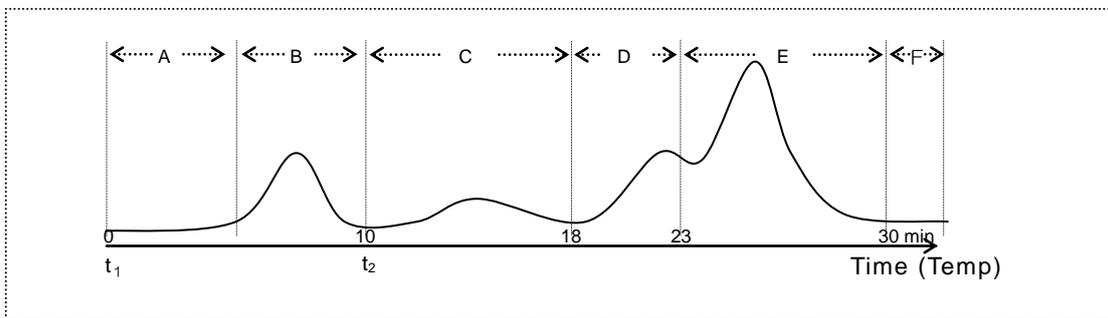
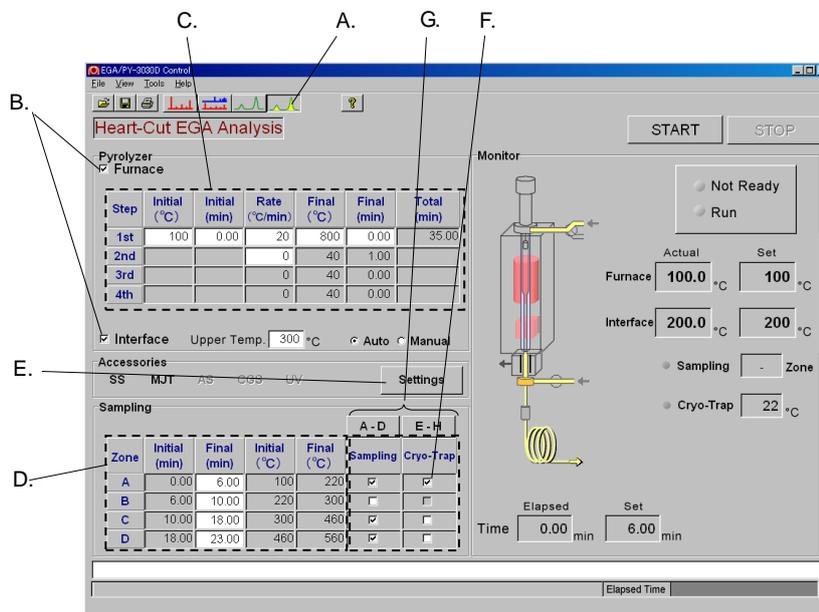

Fig. 4.17 EGA thermogram of a ceramic composite
Fig. 4.18 Set-up screen for Heart-Cut EGA Analysis
Heart-Cut EGA analysis is based on evolved gas curve (EGA thermogram) obtained by Direct EGA Analysis. The temperature zone (elution time range) to be analyzed is based upon the EGA thermogram. Each EGA thermal zone is automatically introduced into the GC column utilizing a Selective Sampler. For example, six EGA thermal zones are observed in the EGA thermogram (100 to 600°C (20°C/min) of a ceramic composite material – see Fig. 4.17.
From the menu bar, select “Tools” – “Analytical Modes” – “Heart-Cut EGA Analysis” or click on the icon for “Heart-Cut EGA Analysis (A)” on the toolbar. The set-up screen shown in Fig. 4.18 is displayed.
- (1) Check the checkboxes for Furnace and Interface (B) to turn on heaters.
- (2) Type in the parameters for a heating program in the table marked by C, in the same manner as described for Direct EGA analysis.
- (3) Determine the end time of each thermal zone using the EGA curve in Fig. 4.17. Enter these times (min) in the table marked as D. When using a mass spectrometer as a detector, the elution temperatures of the target components can be easily determined by using extracted ion chromatograms of the target compounds. *The number entered in Final (min) of each zone is automatically entered as the Initial (min) of the next zone. The Initial time of Zone A starts from 0.0 min (fixed). Temperatures of the Initial (°C) and Final (°C) are automatically calculated and displayed.*
- (4) The Selective Sampler and MicroJet Cryo-Trap are automatically controlled by the software. “Click” on the “Settings” button (E) to display the accessory devices set-up screen. Then check the checkboxes for desired devices.
- (5) Whether a zone is analyzed or vented and whether or not auto cryo trapping is used are all set through using the checkboxes for desired functions (F).
- (6) The button marked by G allows you to switch zone displays between A through D and E through H.
- (7) Place a sample in a sample cup and attach it to the sampler; attach the sampler to the pyrolyzer. Wait 2 minutes to purge air in the dead space.
- (8) Click “START” button.